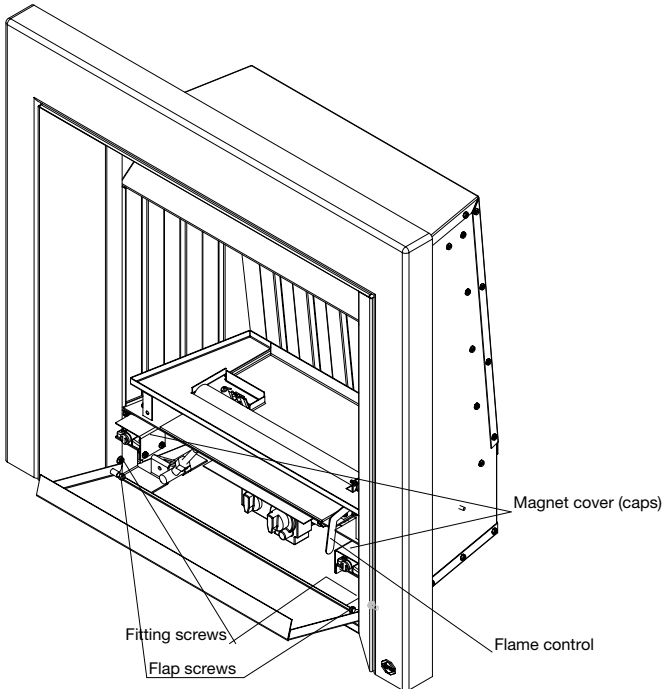

fig. 12
- Remove the fitting screws from the engine (Fig 12)
- Fit the flap as shown in fig. 12, screwing the two screws in the side of the flap into the bottom holes of the black frame.